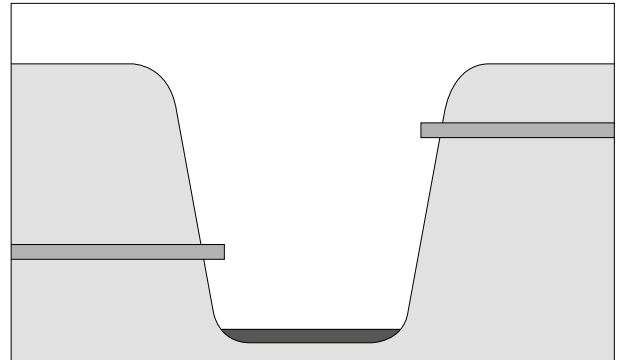

Fig. 4. Trenching.
In case the product/construction is **not** reinforced against angle pressure or traffic load, the product/construction must be placed a minimum of 2,000 mm from any buildings, and a minimum of 2,500 mm from any traffic. This can be insured, by installing barrier boulders, fences or bollards. The trench must be at least 1,500 mm wider and 300 mm deeper than the external dimensions of the product/construction. On the bottom of the trench, there should be a least 300 mm of sand (without stones) that is compressed to a minimum 95% standard proctor (SP). (See fig. 4 og 5).